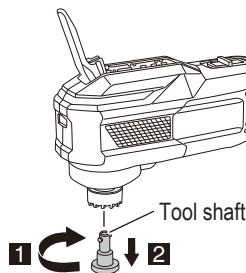

Fig. 9
- (2) Pull out the tool shaft while rotating it counterclockwise. (Fig. 9)